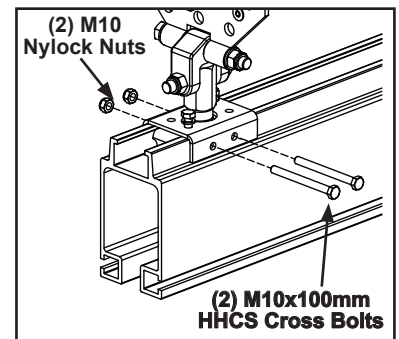

Figure 3-88
- Step 3. Install two (2) M10 x 100 mm HHCS with M10 nylock nuts. **Tighten until snug.** See Figure 3-88.